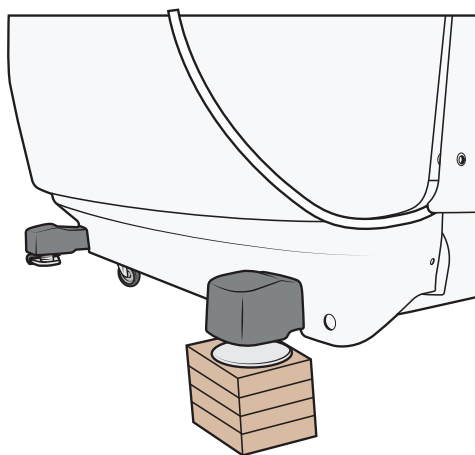

Figure 20
12. Place woodblocks underneath the feet at the foot end of the bathtub. See Figure 20.